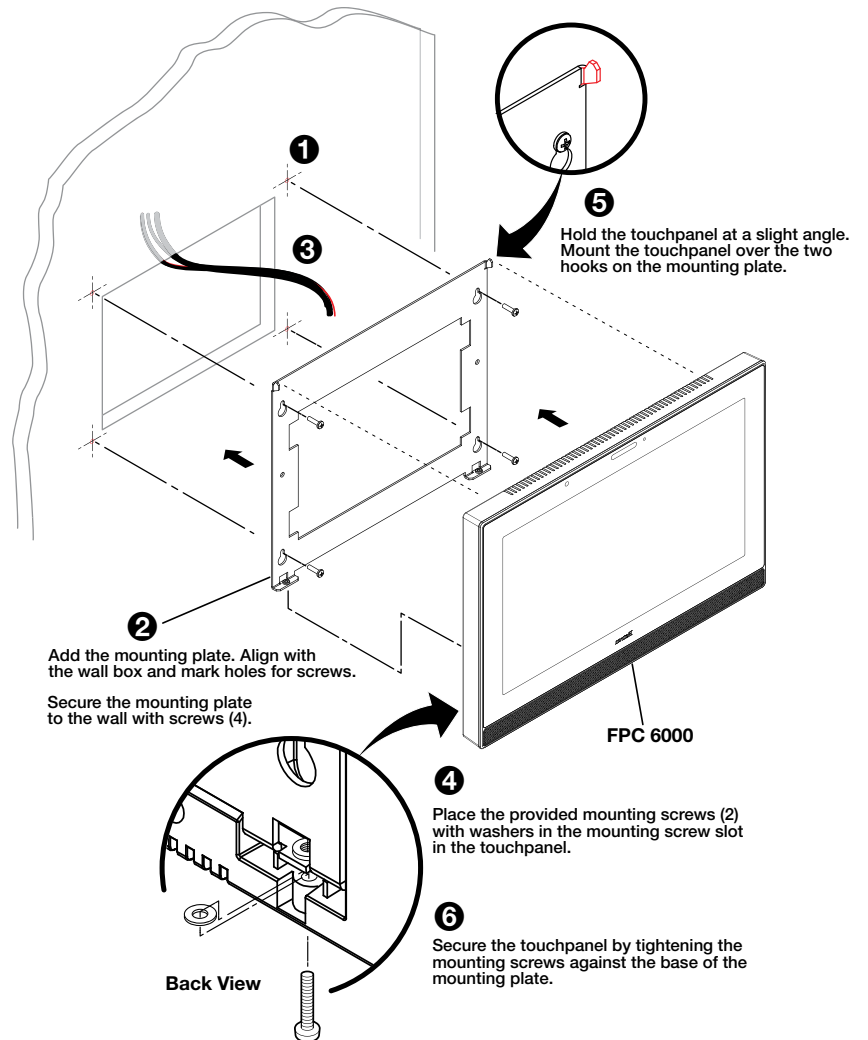

Figure 2. Wall Mounting the FPC 6000
7. Hold the touchpanel at a slight angle and lower the notches at the top of the back panel (see figure 2, ④) over the hooks of the mounting plate.